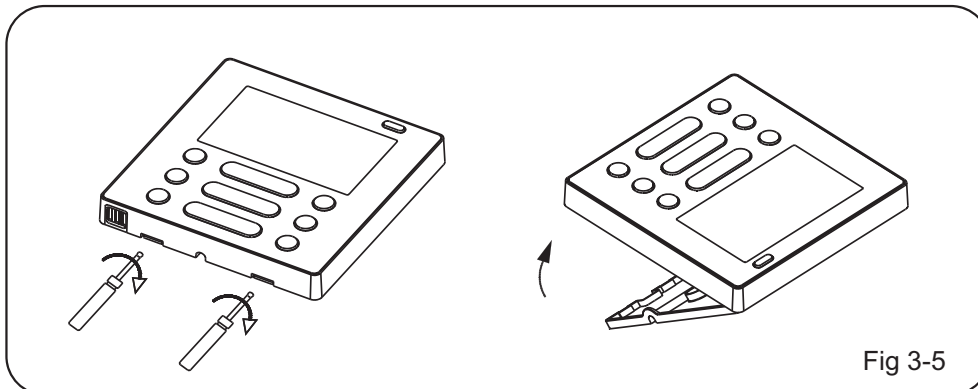

Fig 3-5
3. Take off the cover of wire controller at the bottom with the screwdriver. (See Fig.3-5)